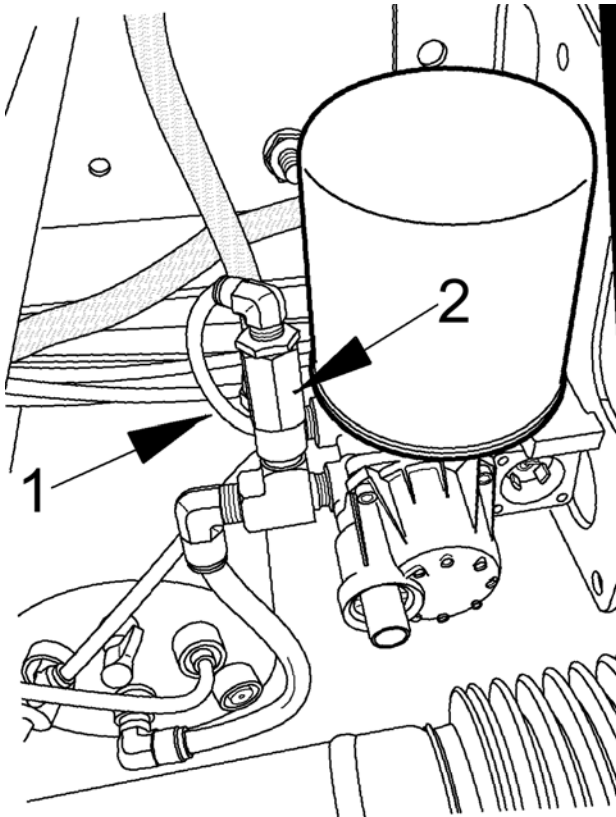

Figure 1 Air Dryer
2. Remove the air line and the pressure protection check valve from the air dryer (Figure 1).